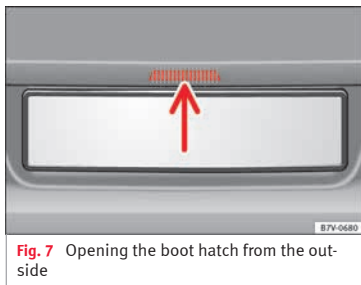

Fig. 7 Opening the boot hatch from the outside
- Raise the rear lid using the button » » Fig. 7 (arrow).